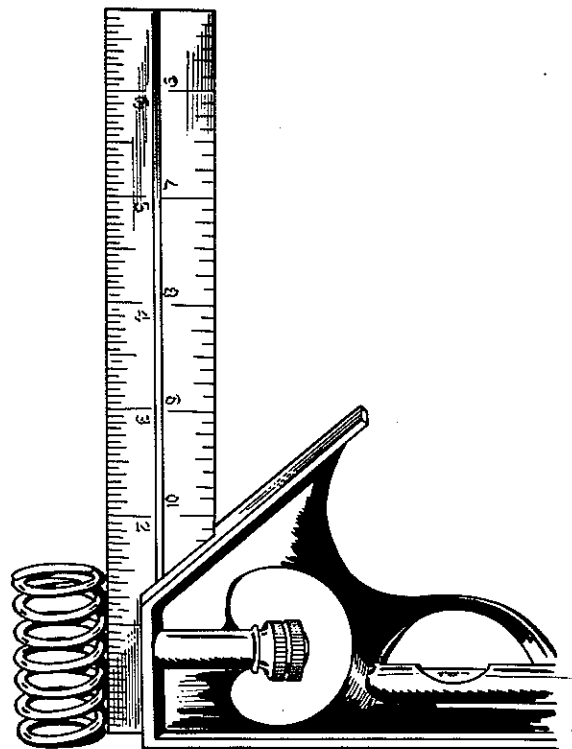

FIGURE 15-8. CHECKING VALVE SPRING SQUARENESS
10. Discard valve springs that show evidence of rust. Check each spring for squareness as shown in Figure 15-8.